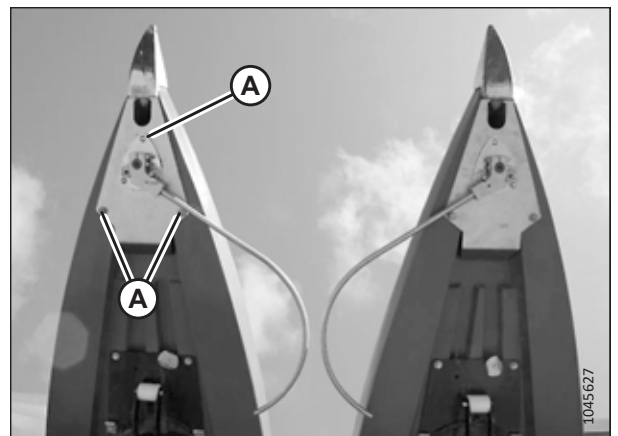

**Figure 3.37: Row Guidance Sensor**
5. Loosen nuts and bolts (A) enough to allow sensor gear (B) to disengage from arm (C).
6. Rotate sensor gear (B) until hole (D) is positioned correctly for the combine type. Refer to Figure 3.37, page 51.
7. Retighten nuts and bolts (A) to secure the sensor.
8. Install the sensor wand assembly into the end of the snout, and secure it with bolts (A).